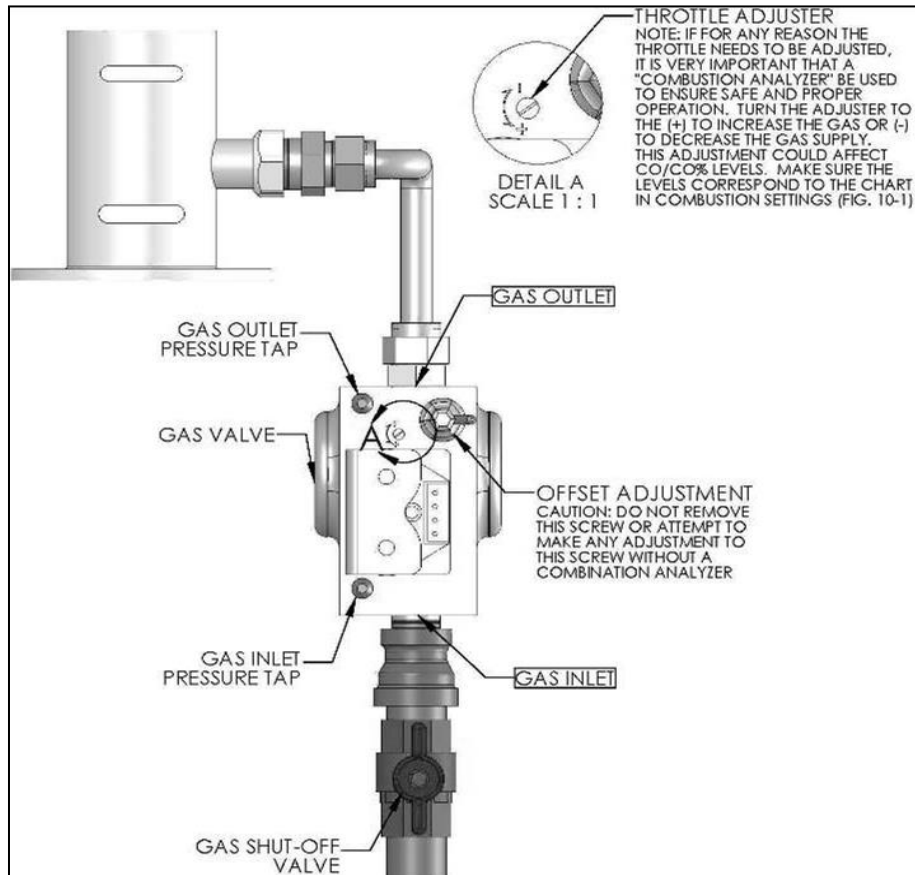

Figure 23 – LP-293-V
2. Loosen the pressure tap with a small screwdriver. Refer to Figure 23 for location.
3. Each unit is equipped with a needle valve that will accept a 5/16 ID hose to connect to a digital manometer or liquid gauge designed to measure incoming pressure from 0-35" w.c. See Figure 23.